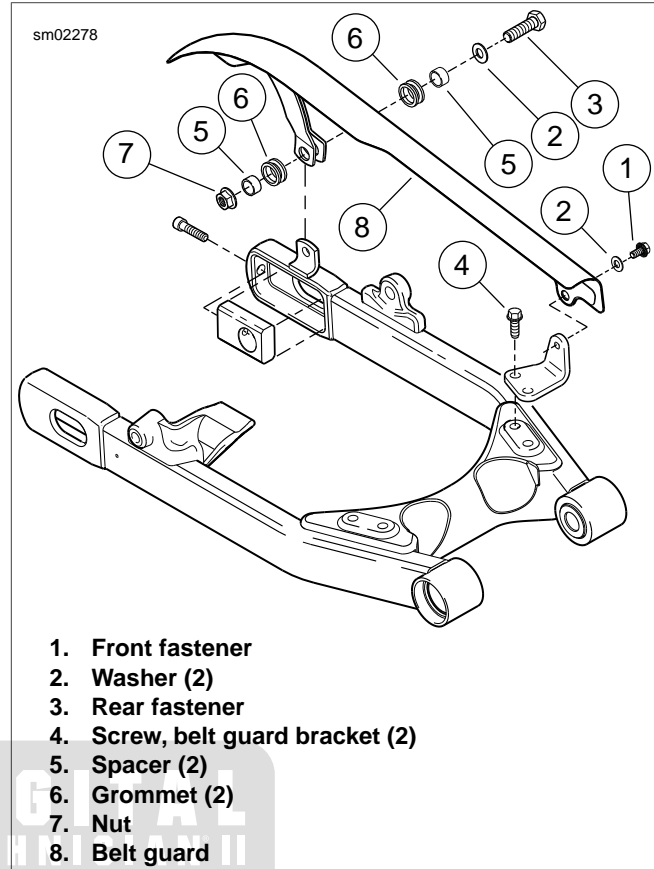

Figure 2-92. Belt Guard
1. See Figure 2-92. Remove front fastener (1) and washer (2).
2. Remove rear fastener (3) and washer (2) from nut (7).
3. Lift belt guard (8) away from rear fork.
4. Disassemble belt guard by removing grommets (6) and spacers (5).
1. See Figure 2-92. If removed, install grommets (6) and spacers (5) on belt guard.
3. Loosely install front fastener (1) and washer (2).
4. Loosely install rear fastener (3) and washer (2) with nut (7).
5. Tighten front fastener (1) to 10-15 ft-lbs (13.6-20.3 Nm).
6. Tighten rear fastener (3) and nut (7) to 10-15 ft-lbs (13.6-20.3 Nm).